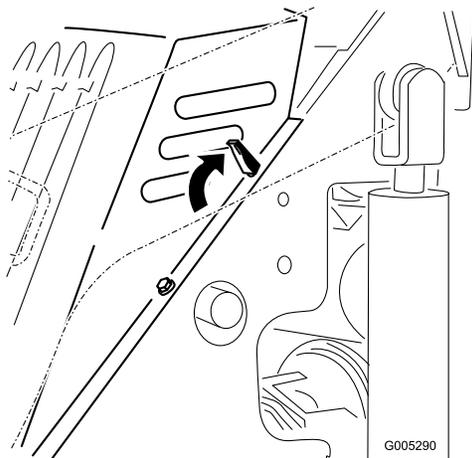

Figure 18
4. Release the 4 locking tabs (Figure 18).
1. Position the hood over the machine frame with the posts on the hood fitting into the holes in the frame (Figure 18).
2. Secure the hood by pushing the locking tabs forward and down (Figure 18).